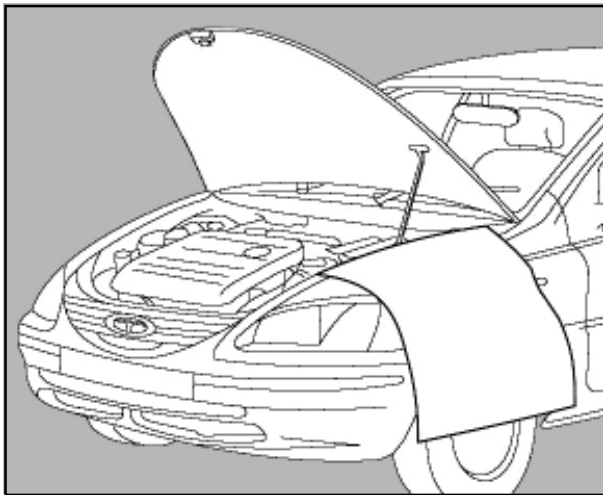

Fig. 1
- Cover fenders, seats, steering wheel and any other parts those are likely to get scratched/soiled before starting any service work (Fig. 1).